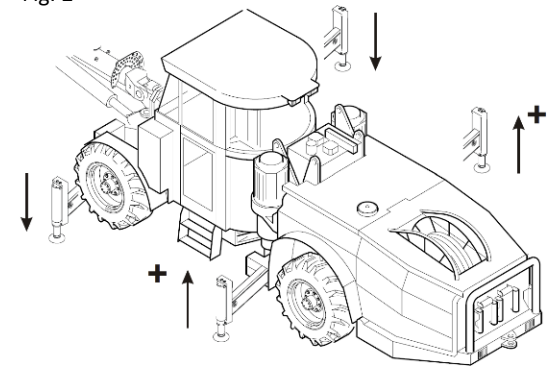

fig. 3
- **Step 17.** using the same locations as used in step 2, lean the machine forward approx. 2 degrees as per the manual klino/level (see fig. 3) or as far as possible and confirm the value in configuration screen increases. If value decreases or is showing a negative value with the machine leaning to the forward, the value will have to be changed to either a + or – coefficient depending on what is already set. i.e. If the coefficient is set as a -0.005 it will need to be changed to +0.005, as shown in fig. 2.